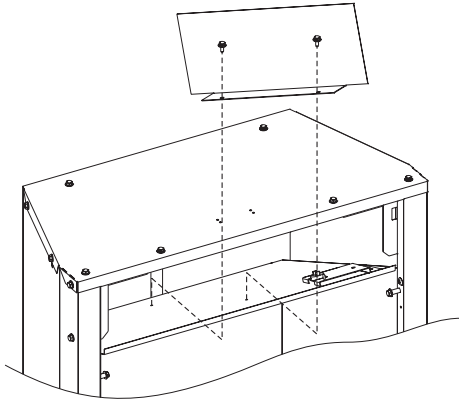

Figure 34
31. Place and align blower diverter on top of inner casing. Attach deflector to top of inner casing with two 10 x 1/2" screws. See Figure 34.